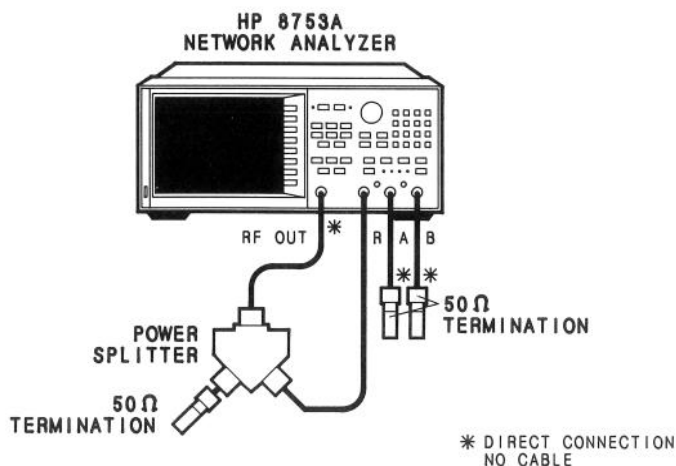

Figure 4. R-into-A and R-into-B Input Crosstalk Test Setup
1. Connect the equipment as shown in Figure 4.